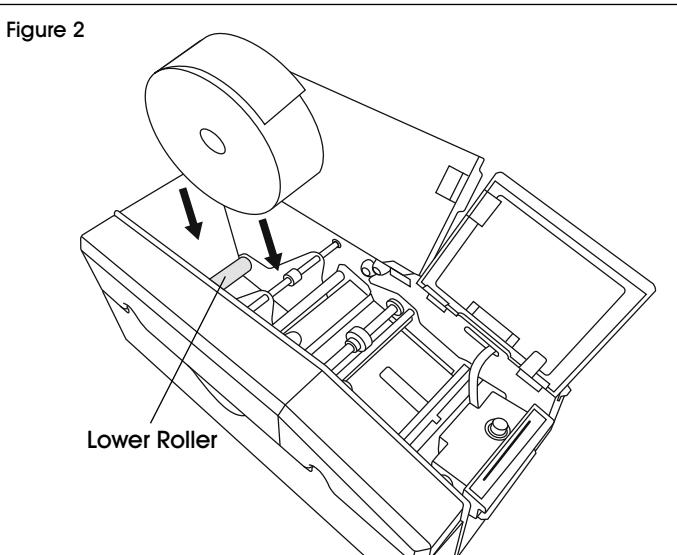

Figure 2
2. Insert tape roll onto lower rollers. (See Figure 2)